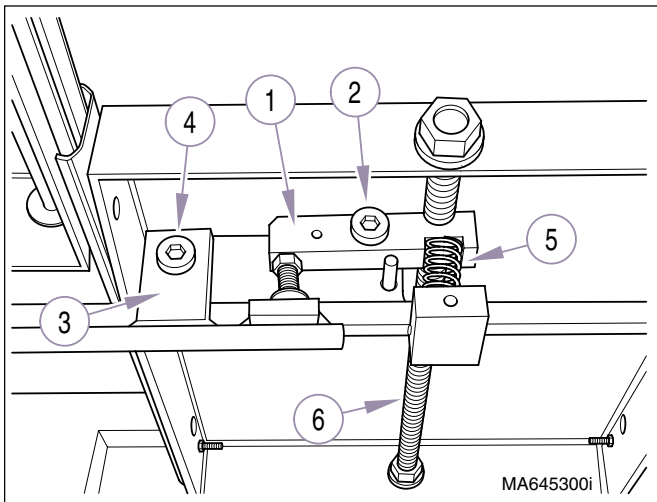

Figure 4-38. Foot Extension
- (3) Install the brake lever (1, Figure 4-38) and secure with shoulder bolt (2).